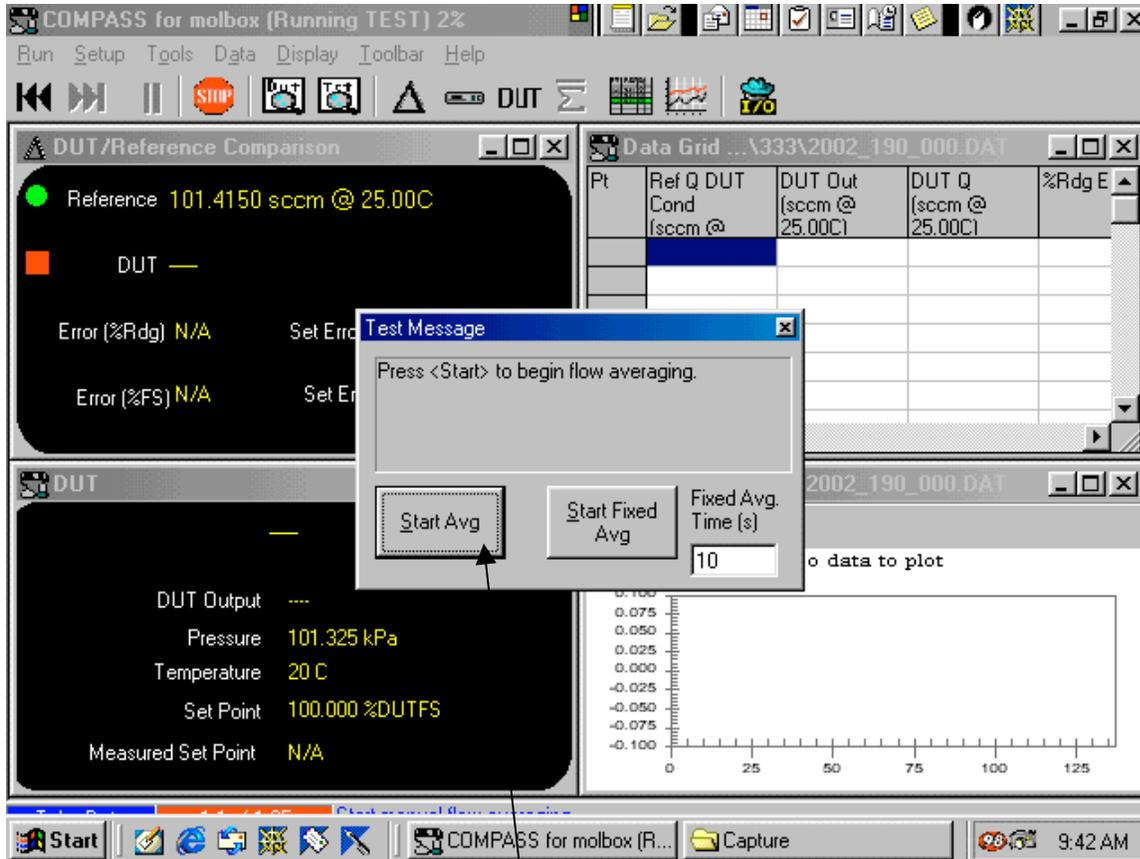

Figure 28 - Start flow averaging
11.4.8 Monitor the "**Reference**" flow. When the Reference flow rate (sccm) becomes stable indicated by a steady green dot, click on "**Start Avg.**" button to start taking averages (See figure 28). Do not disturb the Molstic components while flow averaging is taking place.